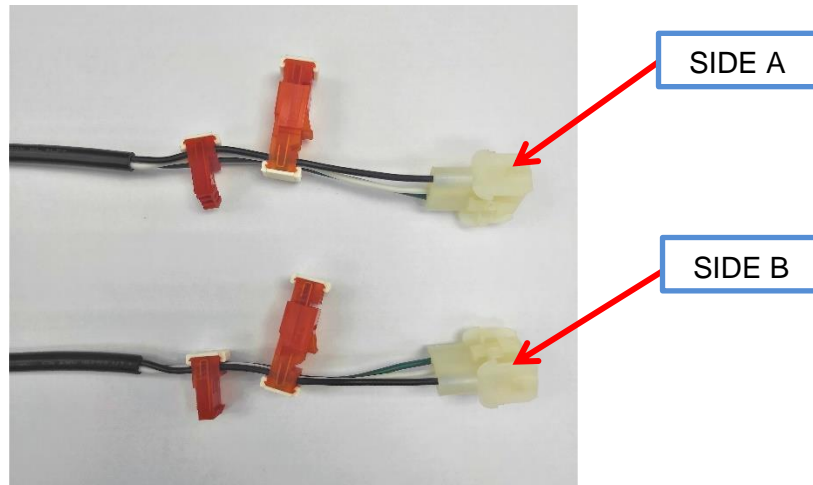

Fig 2.9c– Select for Side A & side B.
- b. For double sided pedestal (RF00012), there have 2 EK0124 cable, Side A & B. Remove "dummy plug" from side B and plug the exposed male orange connector to the orange female connector on EK0124 cable Side A. (Figure 2.9c, d, e)